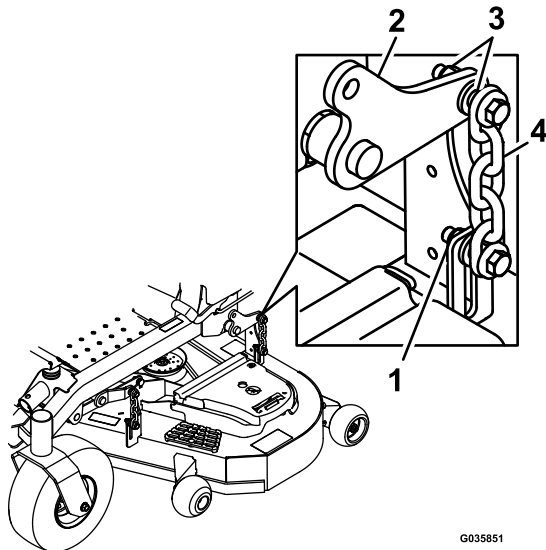

Figure 83
16. Loosen the locknuts (Figure 83) on all 4 corners and ensure that the mower deck is sitting securely on all 4 blocks.